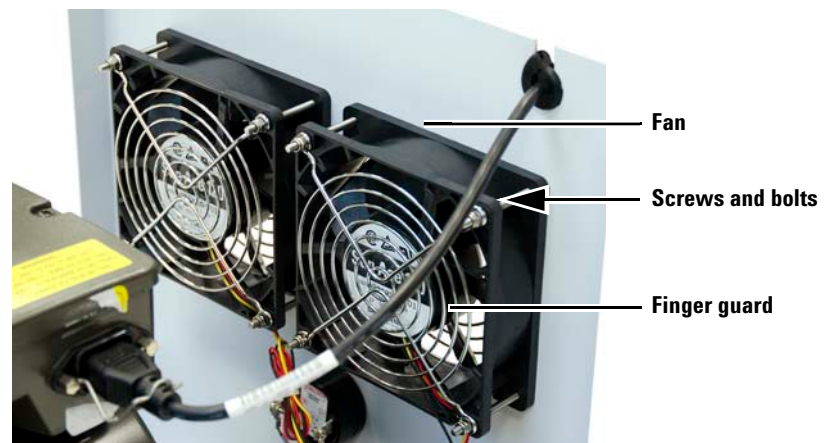

Figure 9 Fan, showing mounting-screw after assembly
- 4 Install the remaining screws (Figure 9.)